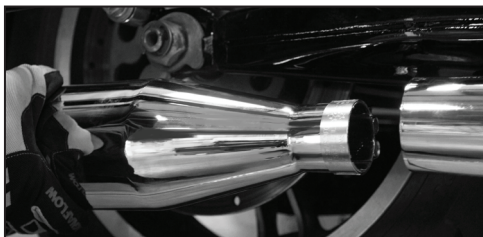

Fig.7
2. With the logo plate facing outward, slide each of the MagnaFlow mufflers on to the head pipe assembly. Do not tighten the muffler clamp at this time to allow for adjustment. (Figure 7)